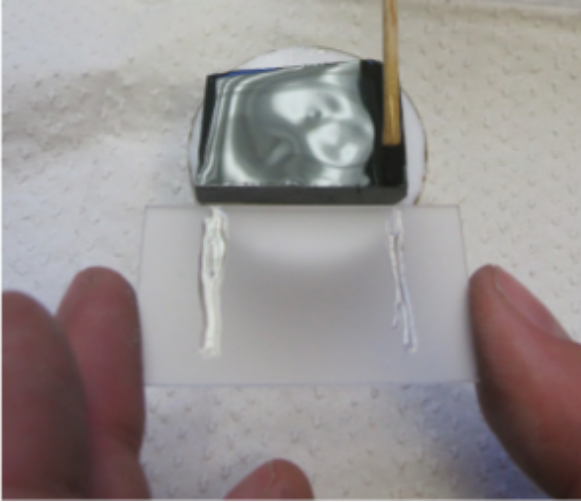

Figure 6
2. Hold the frosted side up to the sample to measure how large it is. Draw two horizontal lines with resin to outline the size of the sample (Fig. 6).